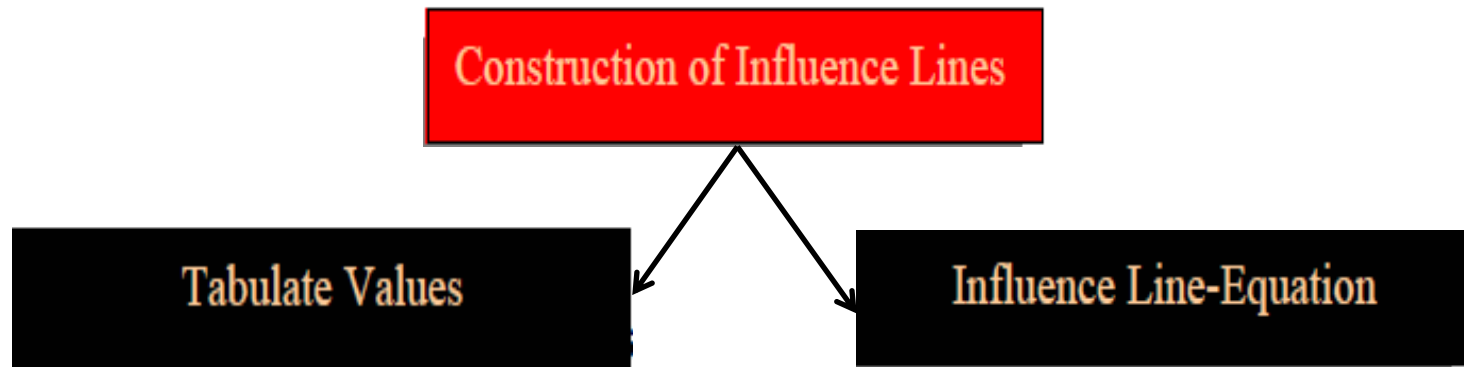

Figure 3: Classification of approach
- Classification of the approaches for construction of influence lines is given in Figure 3.